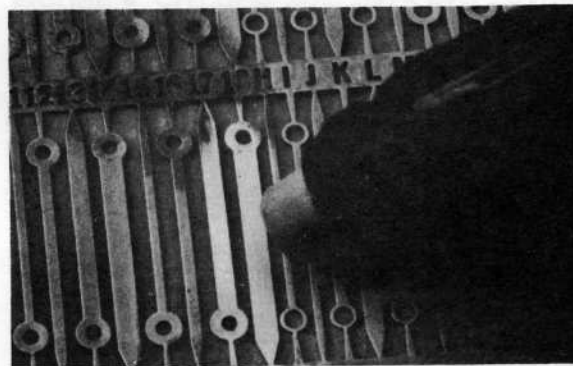

FIGURE 7. CLEANING TRAK-PAD
STEP 5—On a flat surface, carefully prepare both sides of the replacement TRAK-PAD using a PACE Abrasive Stick (see Figure 7). Clean thoroughly with PACE Solvent.